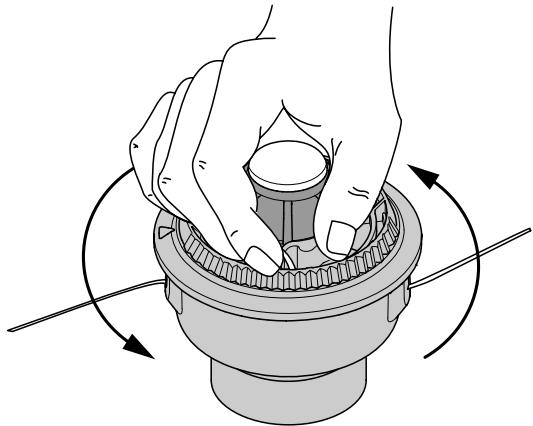

Fig. 20
8. Hold the outer spool. Wind the inner reel counterclockwise until approximately four (4) inches (102 mm.) of line remain (Fig. 20).